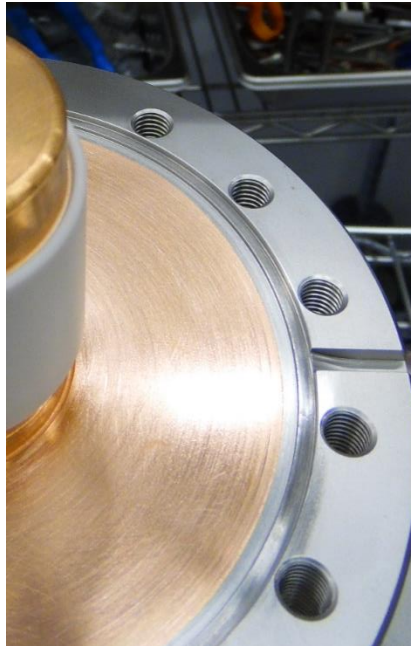

Figure 6.3: CF100 Flange Knife Edge
- 6.3.2. Visually inspect the knife edges on the CF100 flanges on each FPC (Figure 6.3). Generate an NCR if there are any defects on the knife edges